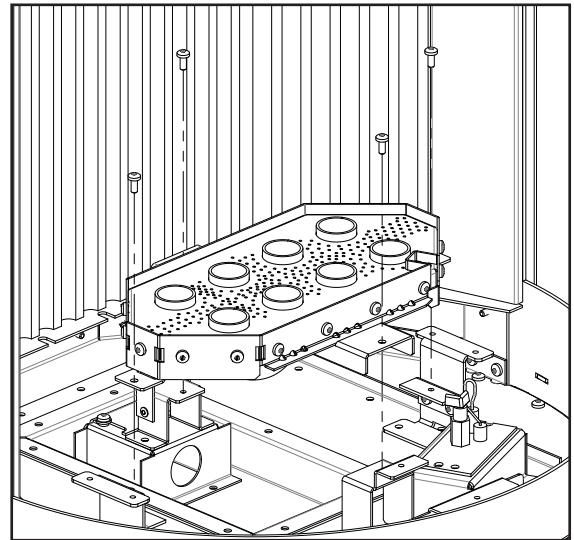

Figure 45: Burner Removal
Remove the four (4) screws securing the burner pan using a T20 screwdriver. Rotate the burner upward and lift out (see Figure 45).